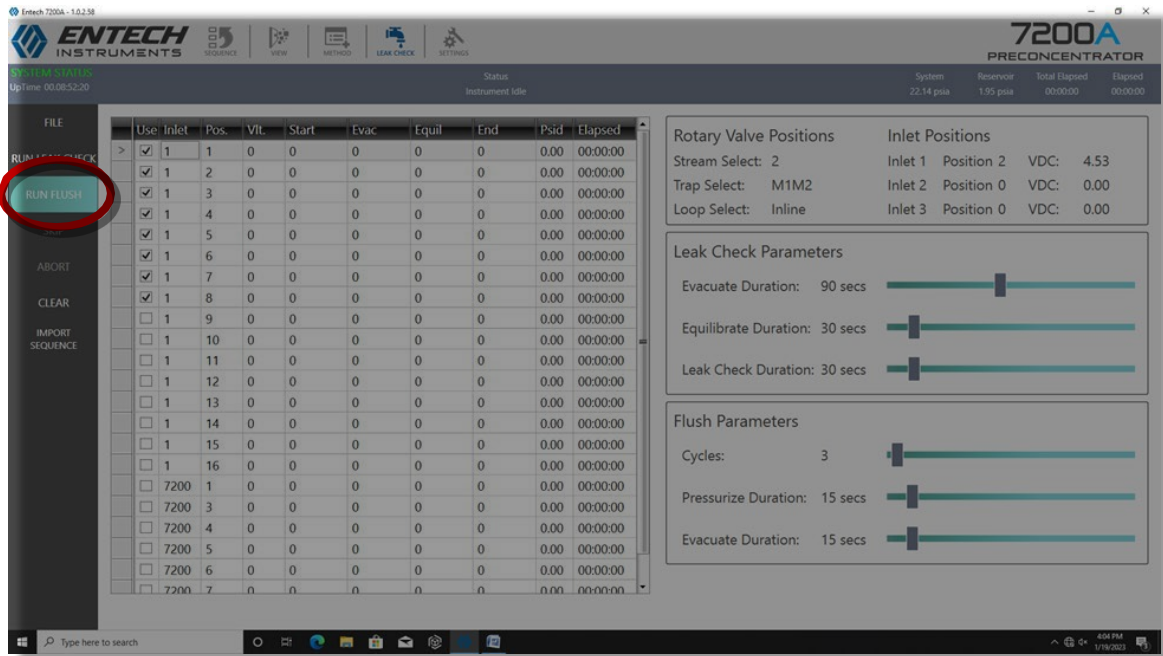

Figure 13. Initiating a canister line flush.
1. To initiate the flushing of the autosampler lines, ensure the correct inlet and positions are selected (have check marks) and click the **Run Flush** button on the left-hand toolbar (Figure 13).
Note: Only the selected autosampler lines are flushed. After each line is flushed, the system automatically advances to flushing the next autosampler line. After the lines are flushed, the message “Instrument Idle” appears. Flush Parameters may be modified by the operator; however, the default settings in Figure 13 are currently in use.